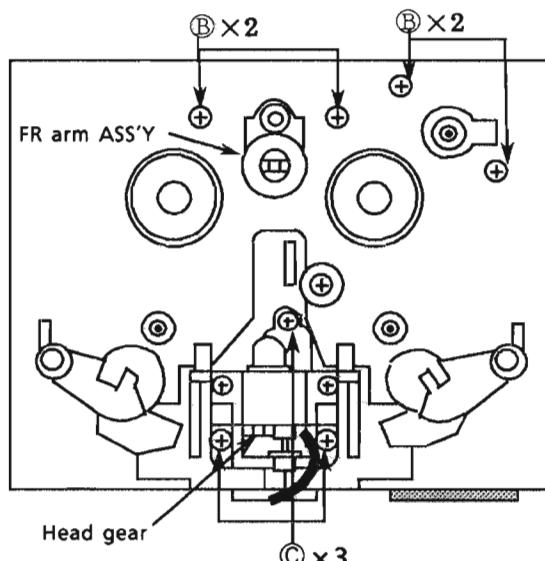

Fig 18
3. Remove the 3 screws Ⓛ fixing the head assembly (Fig 18).
The direction of the head is changed with the head gear. When servicing, install the head gear according to the direction of the head. Refer to fig 18.